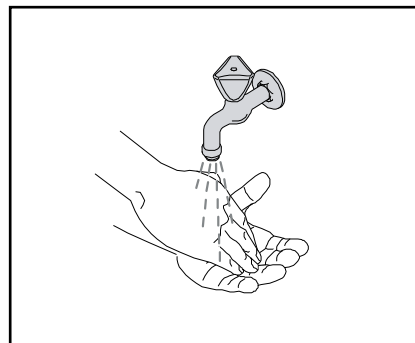

Fig. 3
1. Wash your hands before touching a product pack. (Fig. 3)